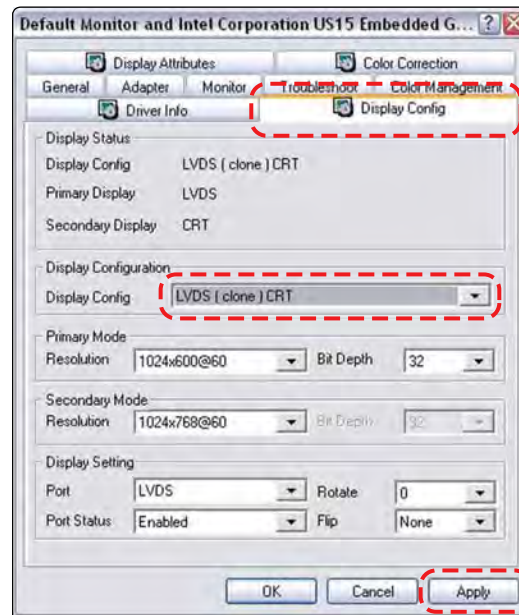

Figure 15-4 Sample Display Config tab
4. From the Display Config tab, select LVDS (clone) CRT from the Display Configuration dropdown menu (Figure 15-4).